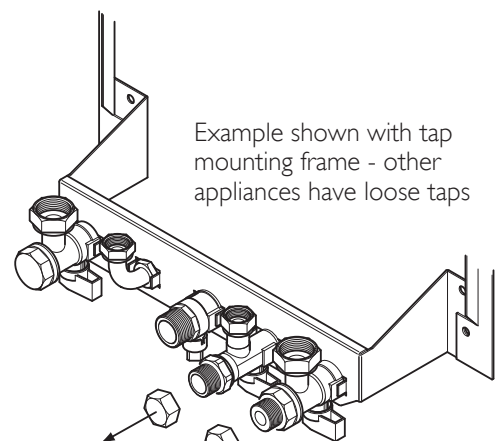

Fig. 1
• Turn off the cold mains inlet and heating return taps and remove their blanking caps (Fig. 1). It is also recommended that the installation is isolated from the mains cold water supply.